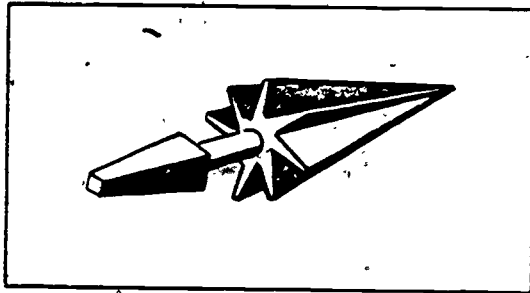

Figure 3-32. Pipe Reamer.
*Pipe reamers.* The pipe reamer, shown in figure 3-32, is used to remove the burr from the inside edge of a pipe that has been cut with a pipe cutter. The metal is turned in by the pressure of the cutting wheel and must be removed to prevent restriction to the flow through the pipe after it is installed. Always ream the ends of a pipe when it has been cut by a pipe cutter. Do not store the reamer in a position that may cause the cutting edges to become dull. If the reamer is equipped with a ratchet, it should be kept clean and oiled.